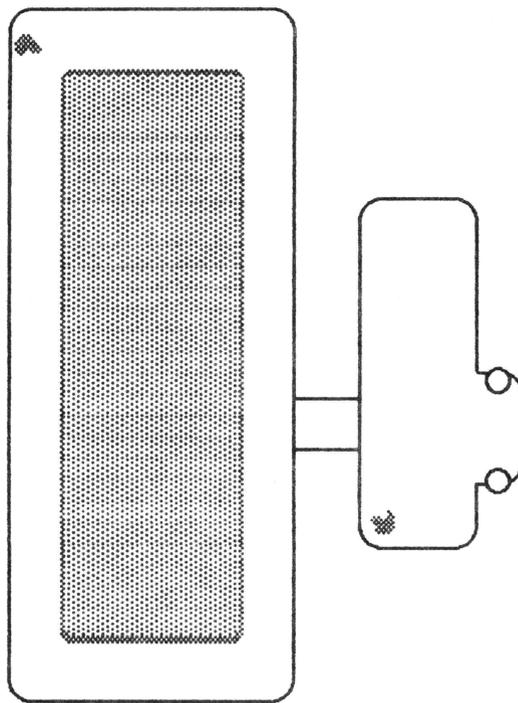

FIGURE 2
4. Orient the Flat Panel Display as shown in Figure 2.